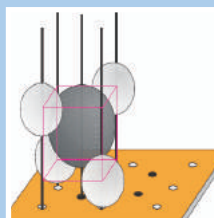

Figure 3: Showing CH_4
- (1) Regular tetrahedral-shaped molecules such as CH_4 can be made using side A of the model by putting four balls at the alternate corners of one of the eight small cubes (the cube on the side A can be visualized consisting of eight small cubes) and one in the centre. (Fig 3)